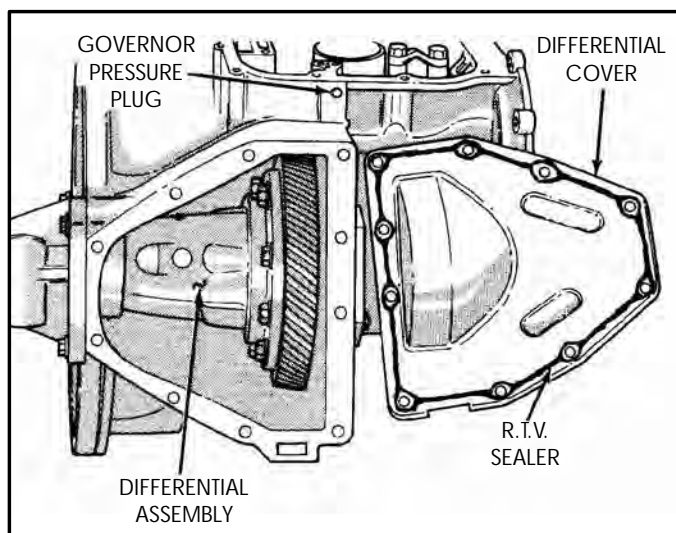

Figure 137
21. Remove the differential cover and remove the R.T.V. from the cover (See Figure 137).